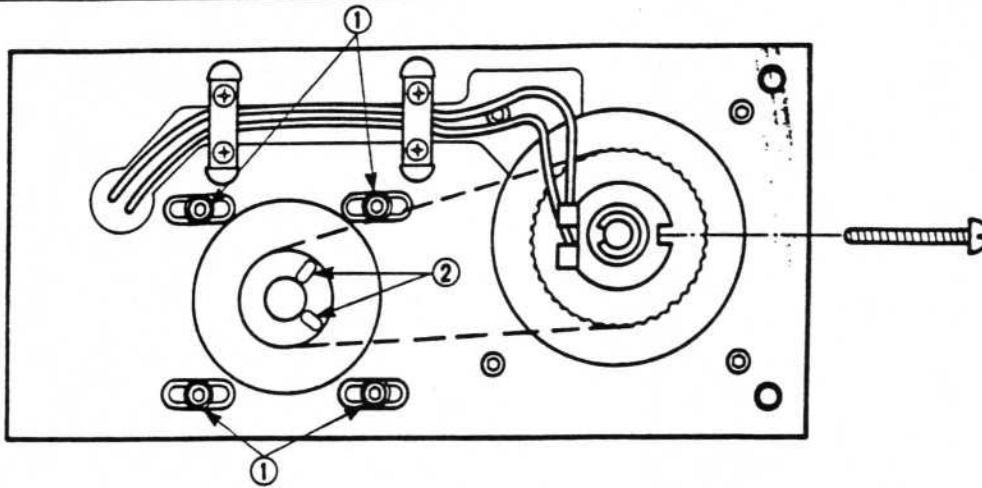

Fig. 7 View from the back side of the RT base
- (1) Loosen the motor bracket securing screws (①, x 4) (see Fig. 7).
- (2) From the outer side, apply a weight F (150 - 250 g) to the central section of the span as shown in Fig. 8, shift the motor bracket and tighten the belt so that the tension (flexure) $t = 1$ -mm and secure the bracket with the screws (① in Fig. 7).
- (1) Loosen the motor pulley securing screws (②, x 2) (see Fig. 7).
- (2) Connect the rotary table to the main unit (motor operating).
- (4) With the assembly as in (3) above, fix the motor pulley in place with the securing screws (② in Fig. 7).